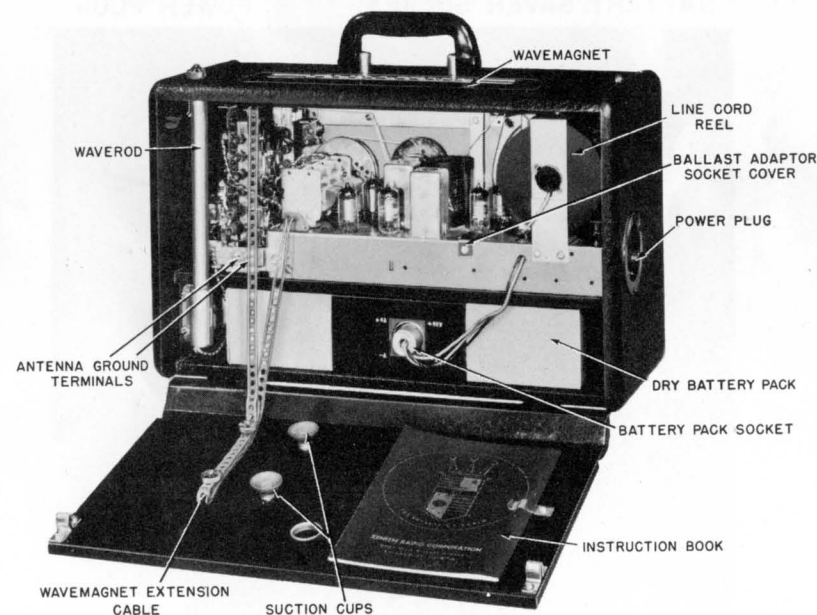

Figure 1.—Rear View, Back Cover Open.
- Free the Wavemagnet cable by turning off the thumb screws which hold the cable to the cabinet back. (See fig. 1.) When wavemagnet is used in normal position (on top of cabinet) be certain that the wavemagnet cable is placed in the exact position as illustrated in fig. 1.